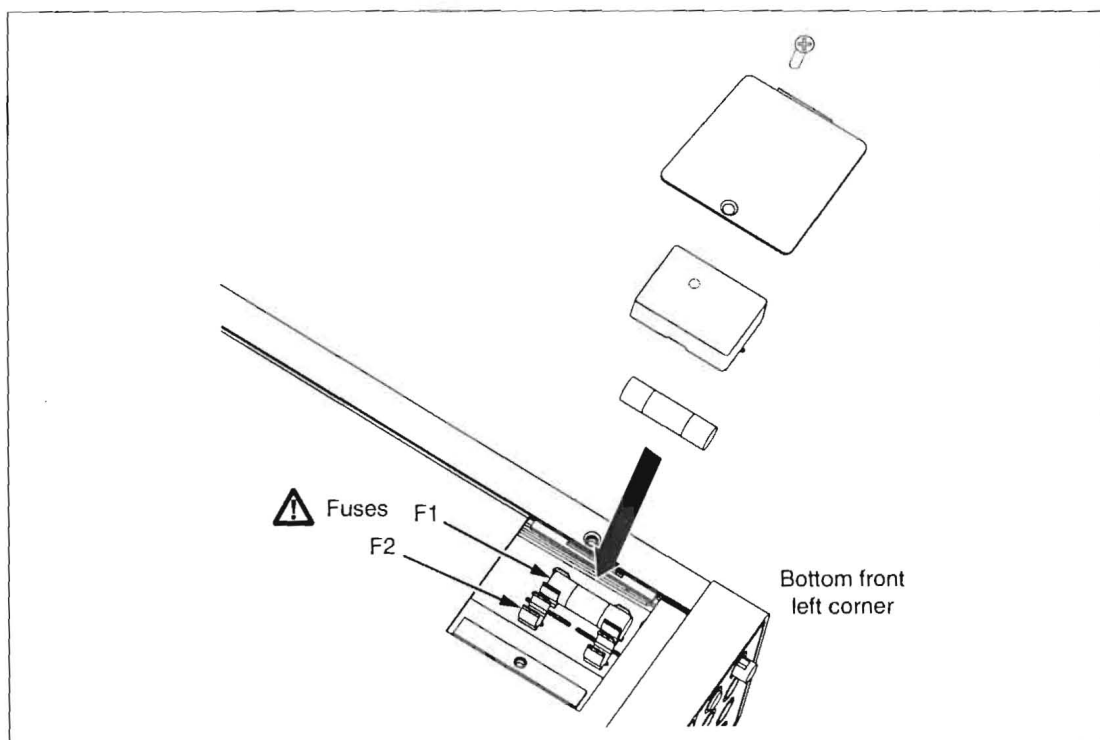

Figure 3. Replacing the Current-Input Fuses
3. Remove the retaining screw on the fuse access door. See Figure 3.